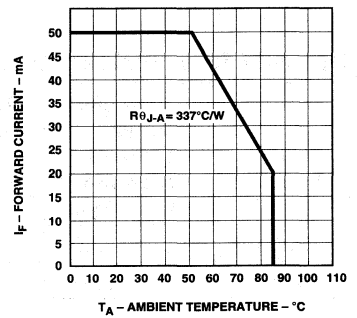

Figure 5. Maximum dc Current vs. Ambient Temperature. Derating Based on  $T_J$  Max. = 110°C.
1. Derate linearly as shown in Figure 5.